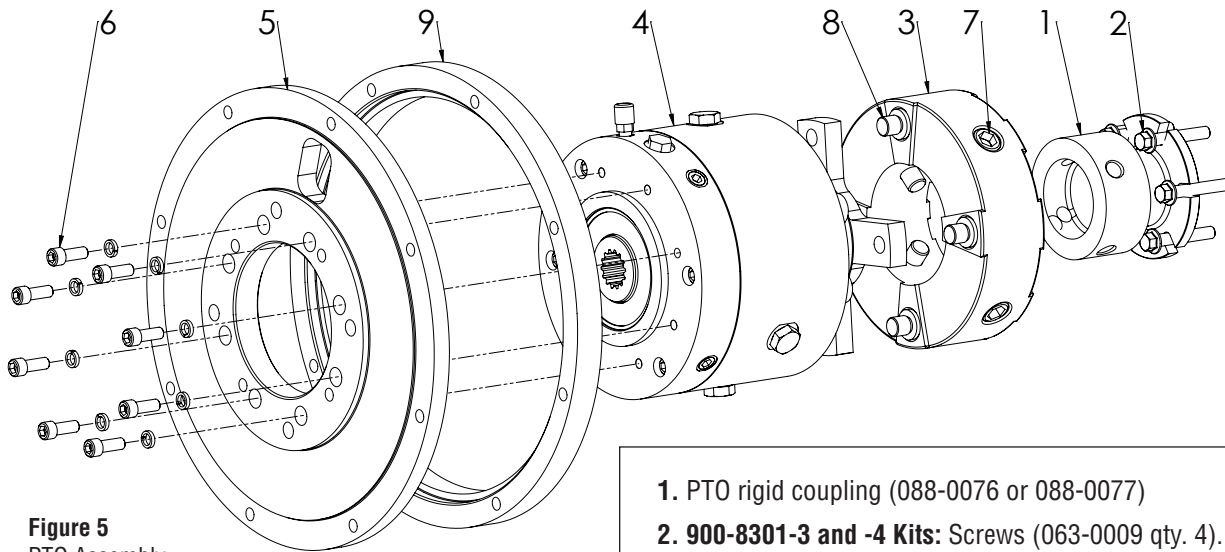

Figure 5
- 4.1 For 900-8301-03 and -04 Kits: Attach the rigid coupling (088-0076) to the engine crankshaft pulley using 4 screws (063-0009). Apply Loctite 243 (or equiv.) and torque to 69 Nm (51 ft. lbs.) See Figure 5.
For 900-8302-01 and -02 Kits: Attach the rigid coupling (088-0077) to the engine crankshaft pulley using 6 screws (063-0127). See Figure 5. Apply Loctite 243 (or equivalent) and torque to 69 Nm (51 ft. lbs.)